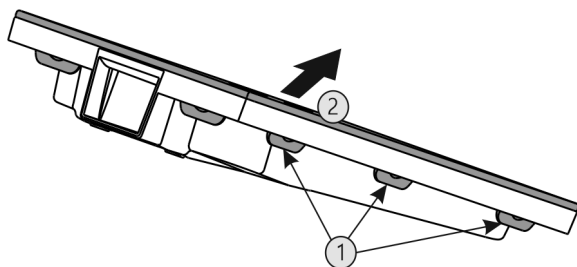

Fig. 32
- ▶ Press all lugs *Fig. 32 (1)* one after another and remove the cover *Fig. 32 (2)*.